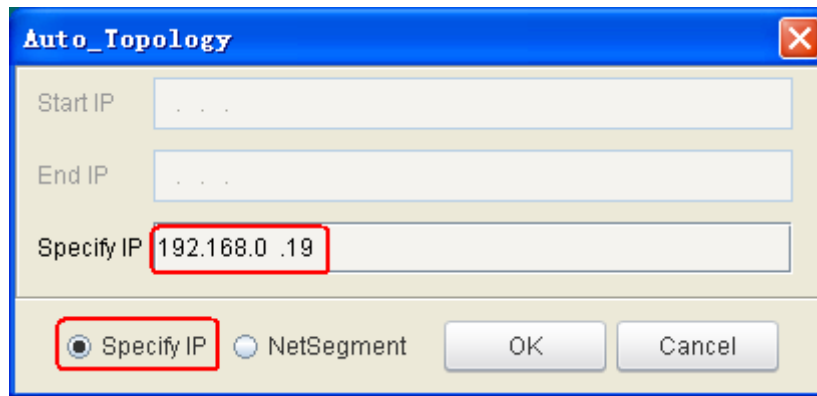

Figure 30 Specifying an IP Address for Auto-Topology
1. Click  in the topology toolbar. The Auto\_Topology dialog box is displayed, as shown in Figure 30.